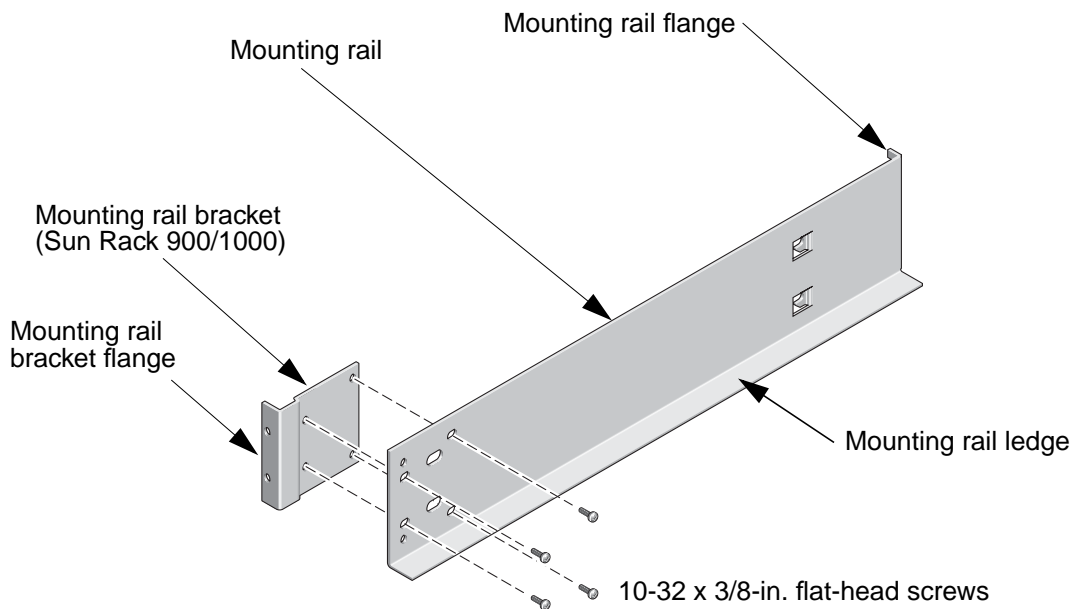

FIGURE 4-1 Mounting Rail Assembly (One of Two) for Sun Rack 900/1000
One of two Sun Rack 900/1000 mounting rails and brackets are shown in FIGURE 4-1. The 12000/24000 director will *rest* on the mounting rail ledge.
1. Assemble the mounting rail and the mounting rail bracket as shown in FIGURE 4-1.